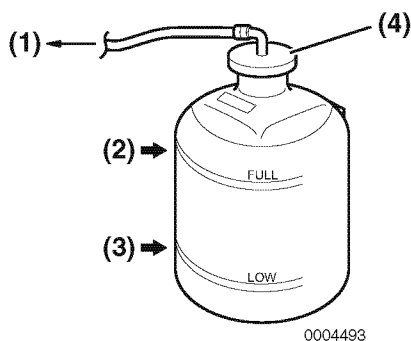

Figure 19
5. Check the coolant level in the reservoir. The level should be at the FULL mark (**Figure 19, (2)**). Add coolant if necessary.
6. Remove reservoir cap (**Figure 19, (4)**) to add coolant if necessary. Do not add water.
8. Check the rubber hose (**Figure 19, (1)**) connecting the reservoir to coolant tank / heat exchanger. Replace if damaged.